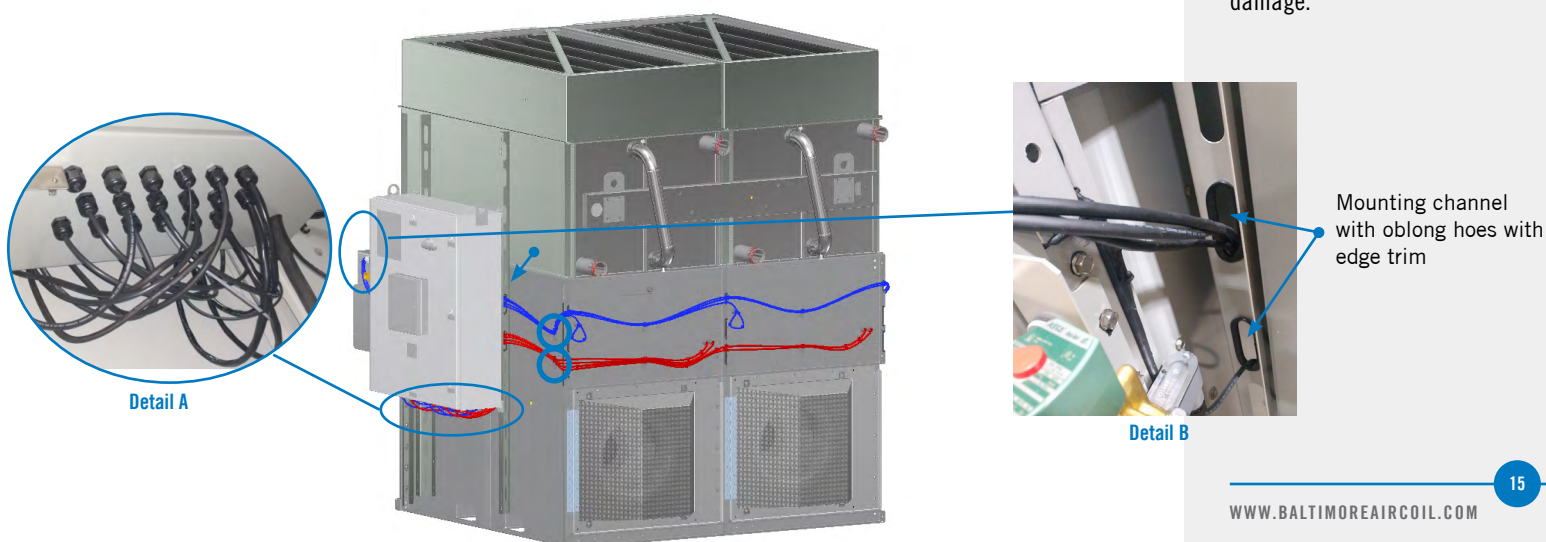

Figure 17. Wire to the iPilot® Control System Panel
6. Route the fan power wire through the bottom oblong hole with the edge trim on the control panel mounting channel. Pull each wire through each cord grip at the bottom of the control panel, then connect each connector of wire to the correct terminal block position. See **Figure 17**.
7. Route the fan communication and component wires through the oblong hole with edge trim on the control panel mount channel. Pull each wire through each cord grip at the bottom of control panel, then connect each connector of wire to the correct terminal blocks position. See **Figure 17**.